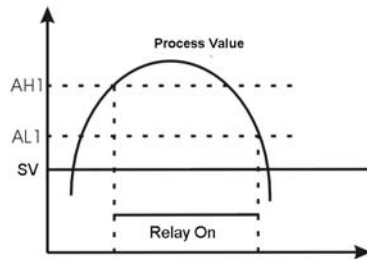

Figure 4
**Note 11.** The SV can also be set directly during the normal operation mode. Press (^) or (v) key to switch the display from process value (PV) to set value (SV). Press (^) or (v) key again to increase or decrease SV by 1 degree.
- ① When AH1=AL1, relay is disabled,
- ② AH1 > AL1 is for absolute high alarm. See fig. 4.